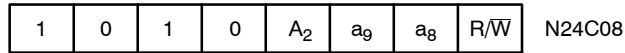

Figure 3. Slave Address Bits
The Master initiates data transfer by creating a START condition on the bus. The Master then broadcasts an 8-bit serial Slave address. For normal Read/Write operations, the first 4 bits of the Slave address are fixed at 1010 (A_h). The next 3 bits are used as programmable address bits when cascading multiple devices and/or as internal address bits. The last bit of the slave address, R/W, specifies whether a Read (1) or Write (0) operation is to be performed. The 3 address space extension bits are assigned as illustrated in Figure 3. A₂ must match the state of the external address pin, and a₉ and a₈ are internal address bits.